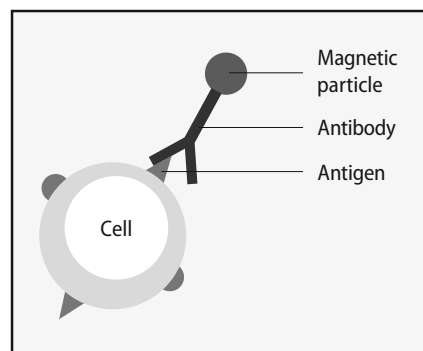

Figure 3.1: Magnetic labeling of cells
- Directly in a one-way labeling procedure by antigen-specific anti-bodies conjugated to super-paramagnetic iron-dextran beads (see Figure 3.1).